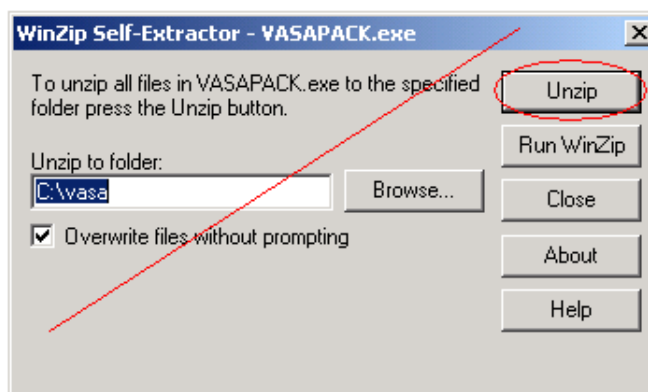

Figure 8: Opening window of VASAPACK
Step 8: When the **VASAPACK** program is run, a window appears similar to figure 8. Click once on the **Unzip** button.